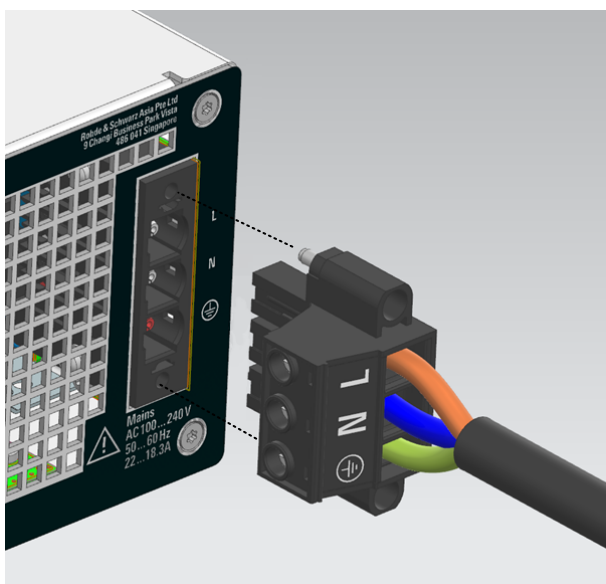
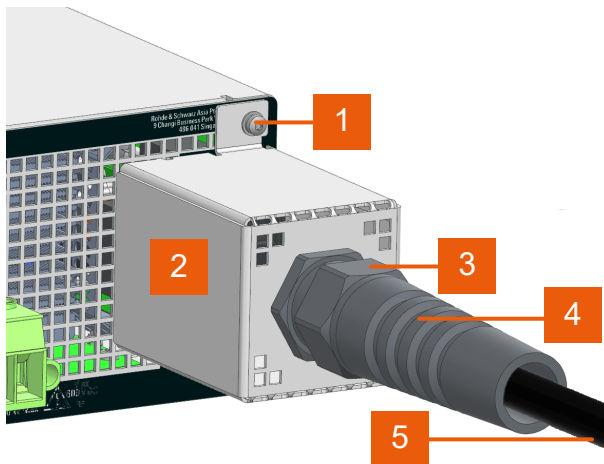

Figure 4-5: Connect AC terminal plug to R&S NGT3600
Figure 4-6: Power connection to R&S NGT3600
5. Wire the power cable line to the AC terminal block plug, disconnect device and AC mains. See "Disconnect device for AC connection" on page 41 and Figure 4-5.
6. Connect the AC terminal block plug to the AC power supply of R&S NGT3600. Tighten the screws on the AC terminal block plug to secure the connection to R&S NGT3600. See Figure 4-5.
8. Remove the two screws at the rear panel (see Figure 4-5) and align the cable cover assembly over the screw points. See Figure 4-6.